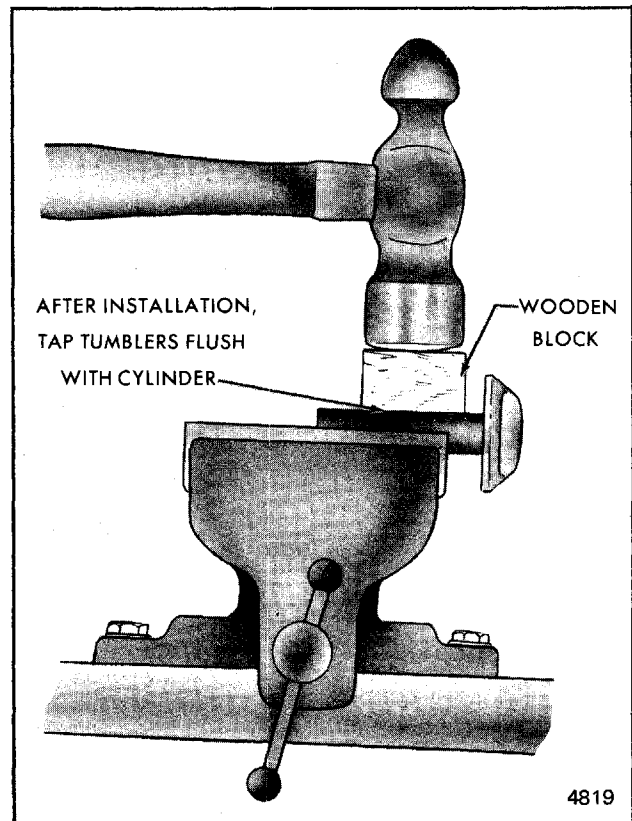

Fig. 1-8-Locking Tumblers in Place
4. Place small wooden block flat on exposed tumblers and tap tumblers down flush with cylinder as shown in Figure 1-8.